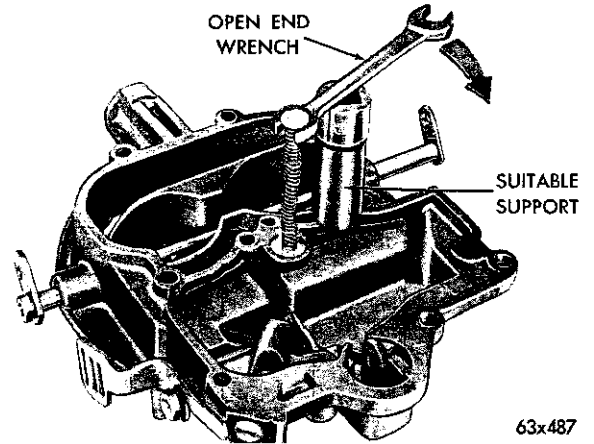

Fig. 5—Removing the Vacuum Power Piston
(7) Remove the vacuum power piston from the air horn, using an open end wrench and wood block, as shown in Figure 5. (Exert sufficient pressure on end of wrench to force piston out of its well in air horn. This assembly is staked in the air horn and care should be used at removal.) Discard air horn gasket.
(8) Test the freedom of the choke mechanism in the air horn. The shaft and piston must float free to operate correctly. If the choke piston sticks in the cylinder, or appears to be gummed from deposits in the air horn, pierce the welch plug and remove the plug and piston. Clean thoroughly and reinstall the piston. Install a new plug.